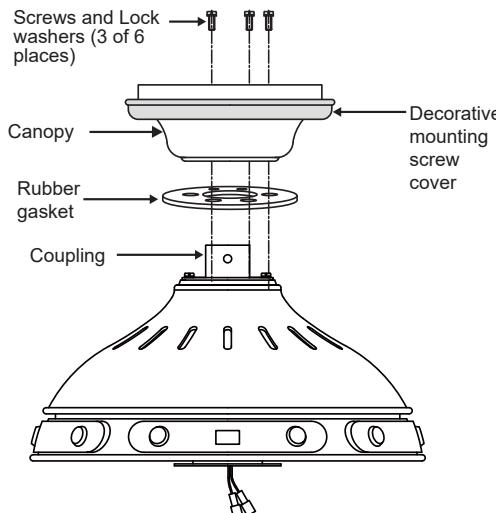

Fig. 9
**Step 1.** Remove three of the six screws and lock washers (every other one) from the collar on top of the motor assembly. Place the ceiling fan canopy and rubber gasket over the collar and align the mounting holes with the holes in the collar. Attach the canopy and rubber gasket with the three screws and lock washers previously removed. (**Fig. 9**)